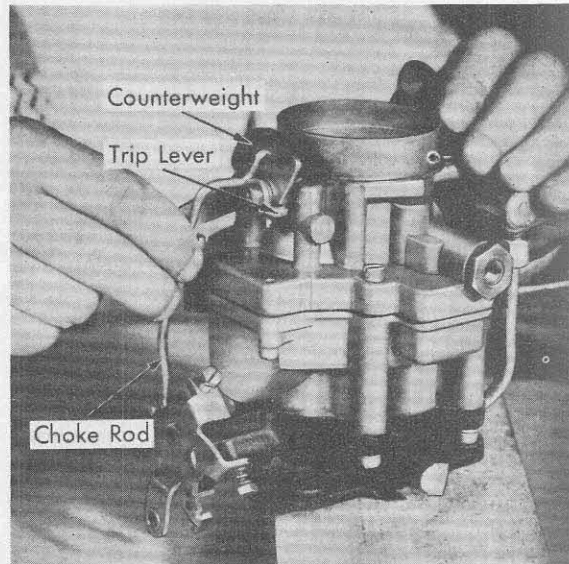

Figure 14
23. Install choke rod, with offset end to counterweight and other end to the fast idle cam. Assemble cotter pins to each end of rod. Turn ends over to prevent binding or interference. (Figure 14.)